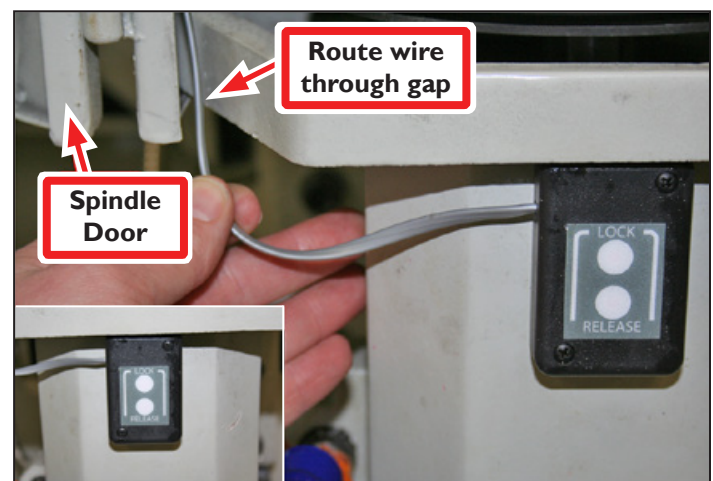

Figure 23
9. Mount the Pendant to the spindle head with the double-sided tape that's on the back of the Pendant (see **Figure 23 inset**).
10. Route the pendant's wire as shown in **Figure 23**.